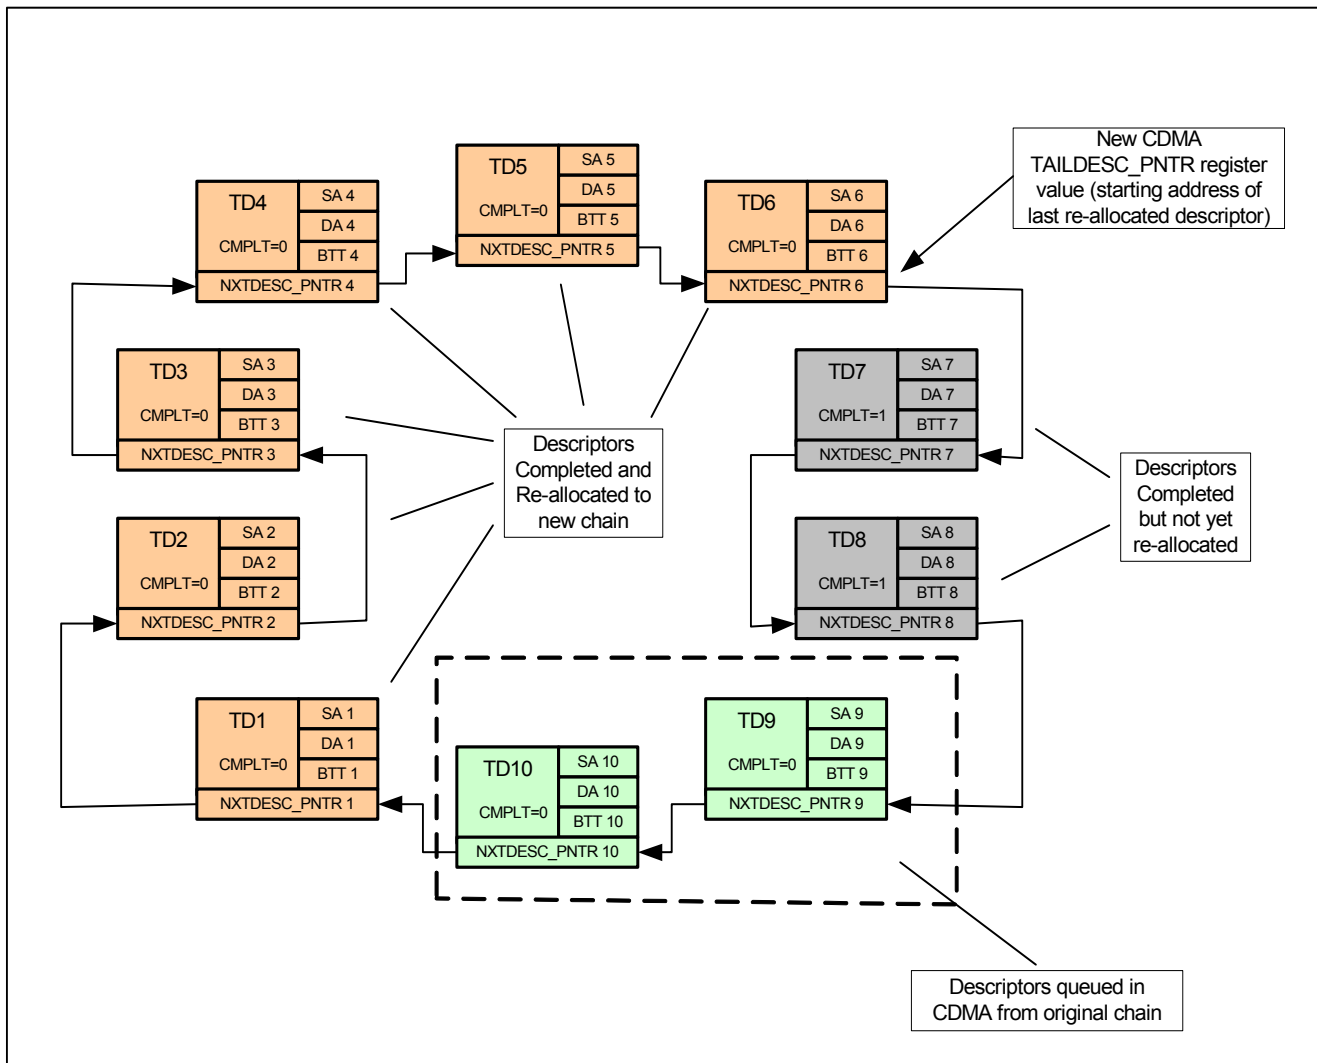

Figure 19: Transfer Descriptor Re-Allocation
- When the software application has recognized the completed descriptor and performed any necessary processing associated with it, the application can re-allocate the descriptors by adjusting the SA, DA, BTT, NXTDESC_PNTR, and zeroing out the STATUS word. This is depicted in Figure 19.